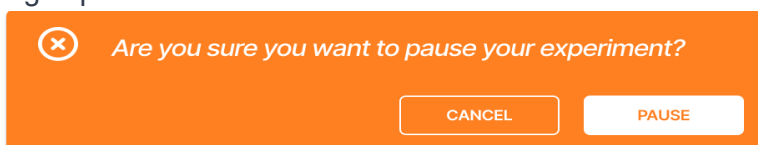

Figure 5.43: Experiment pause user confirmation prompt in the Alto Control Software.
2. A confirmation popup will appear to either "Pause" or "Cancel". Click on "Cancel" if the user is ready to pause the experiment as shown in Figure 5.43. Click "Cancel" to return to the running experiment.